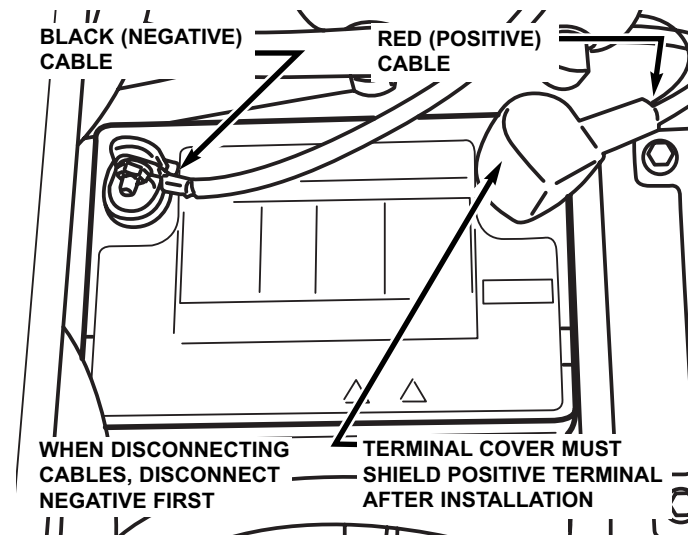

FIGURE 5.18
2. Observe and note cable positions on battery. Disconnect cables from battery terminals, disconnecting BLACK (Negative) cable first and RED (Positive) last. Retain mounting bolts and nuts. See Figure 5.18.
2. Connect cables to battery terminals. Connect RED (Positive) cable first. Connect BLACK (Negative) cable last. See Figure 5.18.
3. Reinstall positive terminal cover. See Figure 5.18.